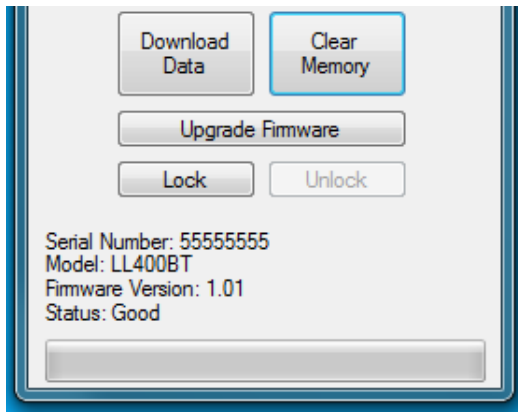
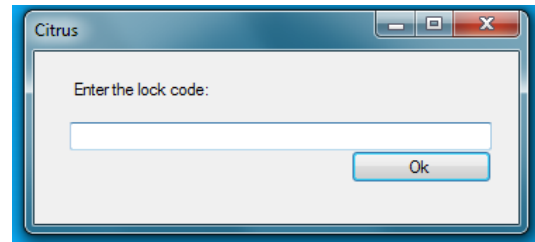
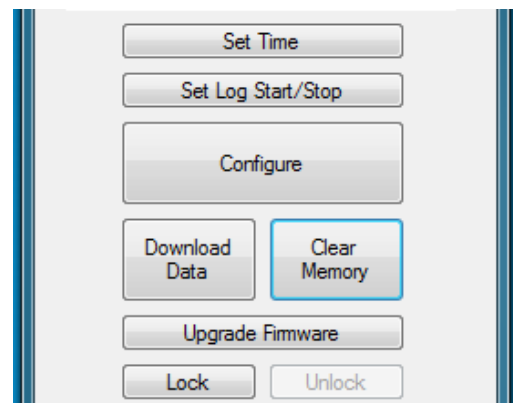

Figure 2.11.1
Figure 2.11.2
Figure 2.11.4
Step 1: Click on the 'Lock' button in the 'Status' window as shown in figure 2.11.1. A message box as shown in figure 2.11.2 appears.
Step 2: Enter up to an eight digit number as the lock code in the input cell as shown in figure 2.11.2.
Step 4: Click on the 'Unlock' button, the window in figure 2.11.2 appears. Enter the lock code to unlock the device. The 'Status' window as shown in figure 2.11.4 is now unprotected.